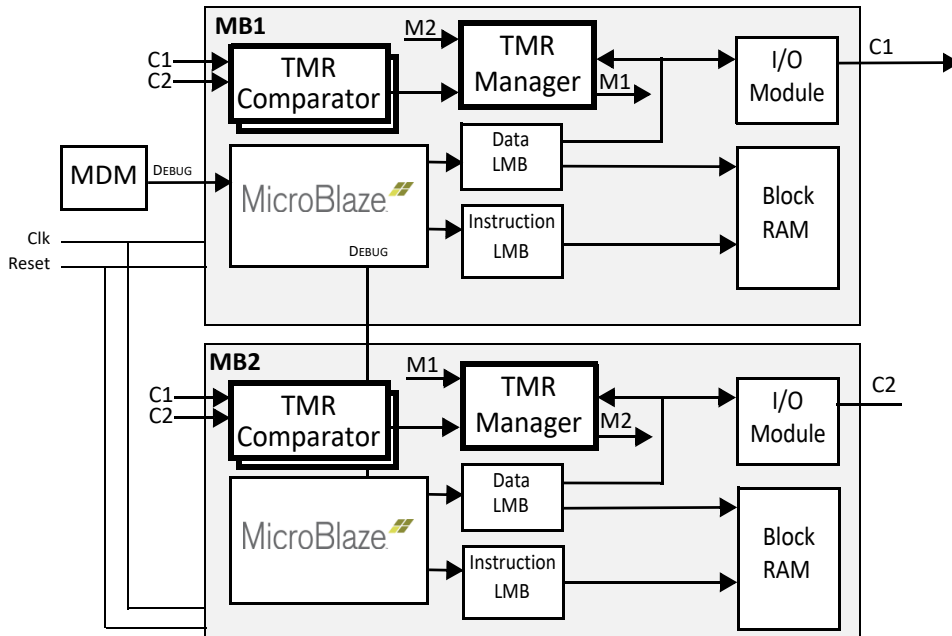

Figure 2-7: Lockstep MicroBlaze Fail Safe Subsystem
The TMR Manager and TMR Comparator implementation supports a lockstep configuration, which only duplicates the sub-blocks to provide a Fail-Safe (FS) subsystem, as shown in Figure 2-7. In this subsystem, there is no need for voting.